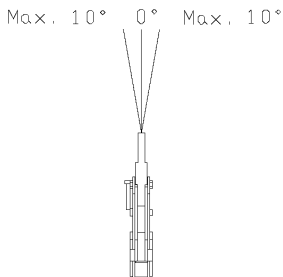

Figure 2: Never exceed ten degrees (10°) side loading with an “SBC” or an “HBC” model clamp.
6. Never exceed ten degrees (10°) side loading (Fig. 2).
4. When using more than one clamp to lift material, make sure clamps are positioned to share equal loads. Never exceed ten degrees (10°) side load with the “SBC” and “HBC” clamp models (Fig. 2).
- Never exceed ten degrees (10°) side loading with an “SBC” or an “HBC” model clamp (Fig. 2).